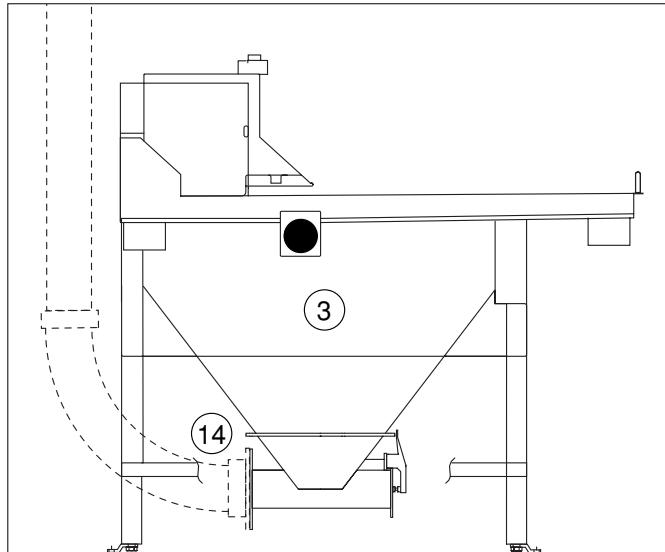

fig.12.1 Collecting bin connections
- Connect point **14** to the vacuum transport system. Consult the Technical Data sheet for connection data. See figure 12.1.